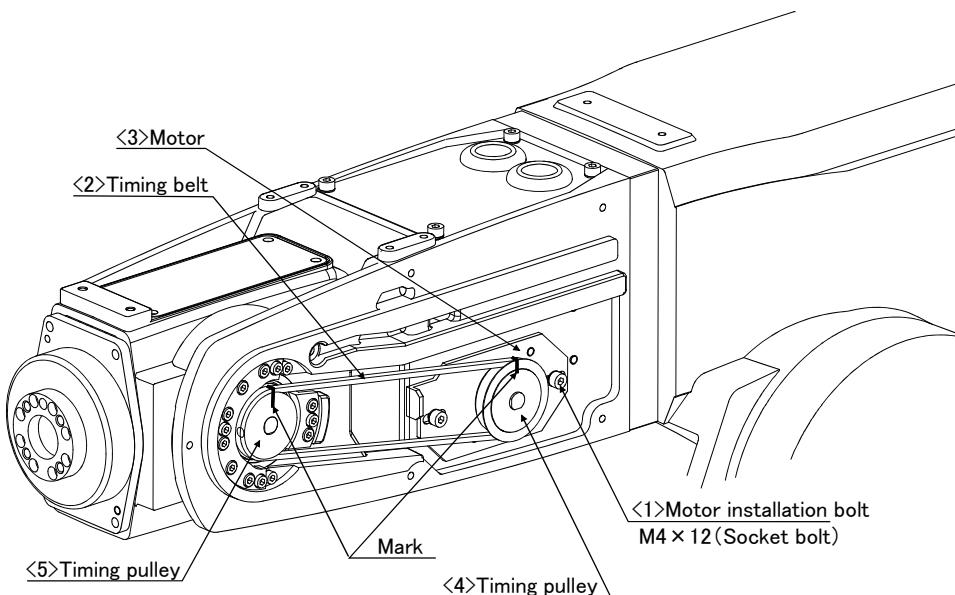

Fig.1-4 : Inspection, maintenance and replacement of J5-axis timing belt
- 3) Move the motor <3> in the directions of the arrows shown in Fig. 1-4, using the tension adjustment screw while checking the tension of the timing belt <2>. Lightly pushing the center of the belt with your finger (approximately 1.3 N), move the motor to the position where the belt flexes about 2.3 mm.
- 1) Fig. 1-4 shows the methods for inspecting, adjusting and replacing the timing belt.
- 5) Make marks on the timing belt <2> and timing pulleys <4> and <5> with a felt-tip pen as shown in Fig. 1-4 so that the engagement of the timing belt <2> and timing pulleys <4> and <5> does not deviate.